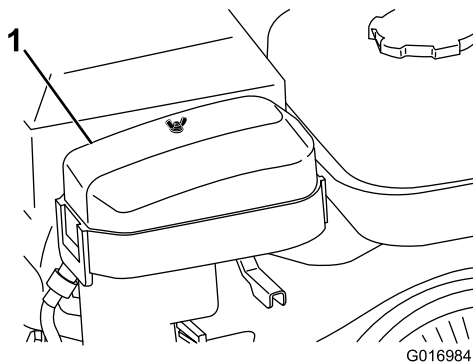

Figure 25
2. Remove the wing nut securing the air-cleaner cover and remove the cover (Figure 25).